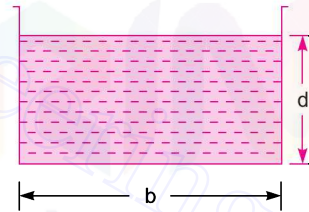

Fig. 16.9 Rectangular channel.
**16.5.1 Most Economical Rectangular Channel.** The condition for most economical section, is that for a given area, the perimeter should be minimum. Consider a rectangular channel as shown in Fig. 16.9